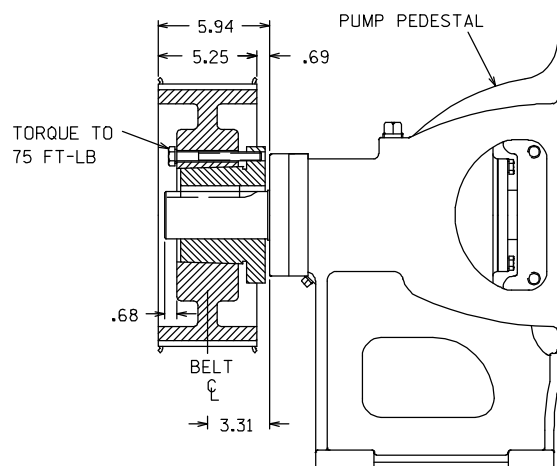

Figure C-7. Hub and Sprocket Installation
**(Figure C-7)**
### (Figure C-7)
Position the hub and sprocket to the dimensions shown in Figure C-7 and torque the mounting capscrews to 75 ft. lbs. (900 in. lbs. or 10.4 m. kg.)
Make certain that the hub and sprocket are mounted as shown in Figure C-7. **This is critical.** If the sprocket is not properly positioned on the shaft, the pump drive belt will not be properly aligned, which can cause premature belt or bearing failure.